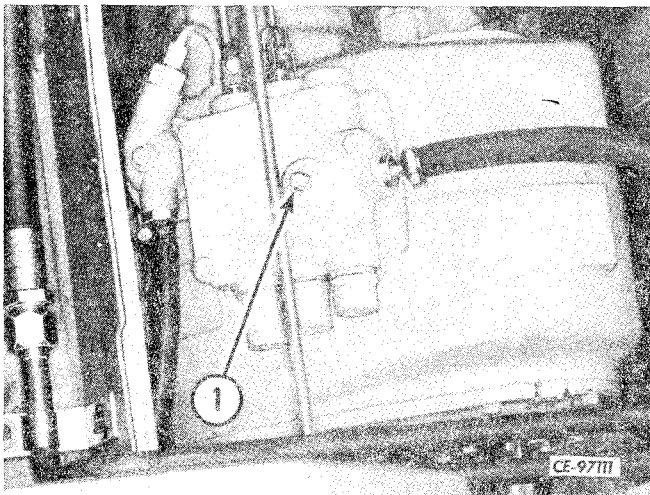

Figure 4-5
- c. Service gauge may be attached to clutch pressure tap on main valve body (1, Fig. 4-5).